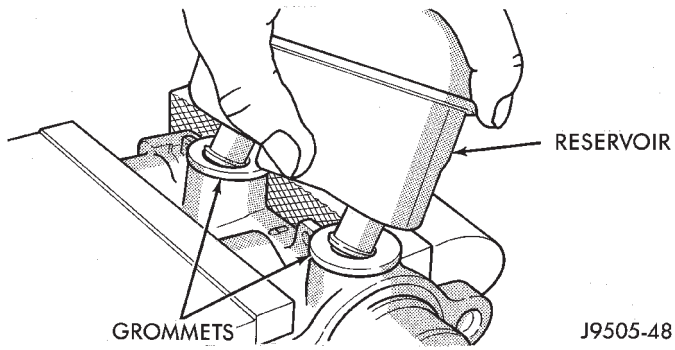

Fig. 43 Reservoir Removal
(5) Remove reservoir by rocking it to one side and pulling free of grommets (Fig. 43).